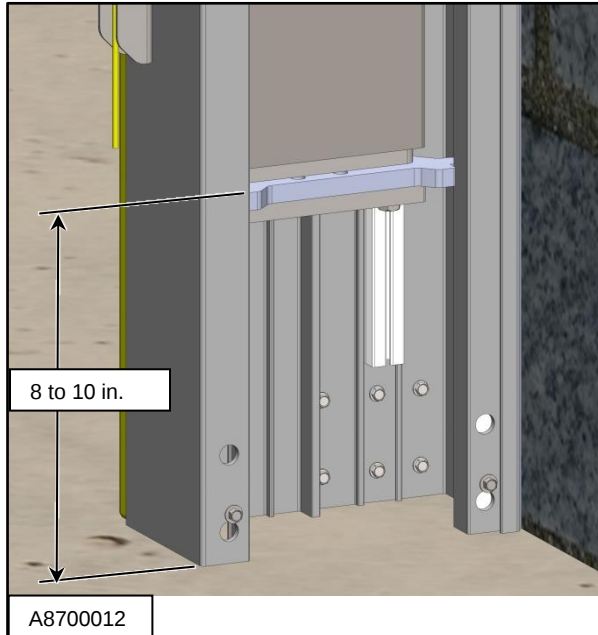

Figure 28
5. Measure the distance between the bottom of each counterweight and the base of the side column. The distance between each counterweight and associated base plate should be 8 to 10 in. (See Figure 28)